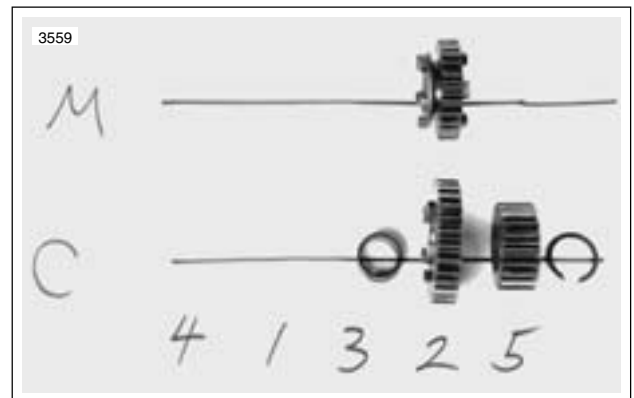

Figure 6-33.
3. See Figure 6-33. As each component is removed, place it on a clean surface in the exact order of removal.